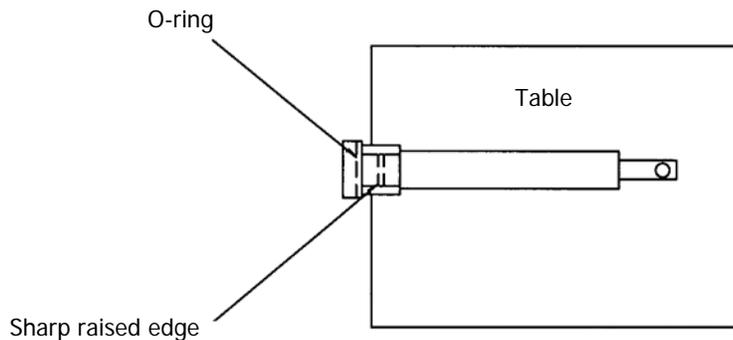

Figure 31 Seal installation
8. Lay the plunger on a flat tabletop. Position the plunger so that the seal (from the O-ring up) hangs over the edge (Figure 31). Slowly roll the plunger along the table edge, pressing firmly on the portion of the seal below the O-ring. Rotate the plunger three complete turns. This is necessary for the sharp, raised edge of the plunger to bite into the seal for a secure fit.